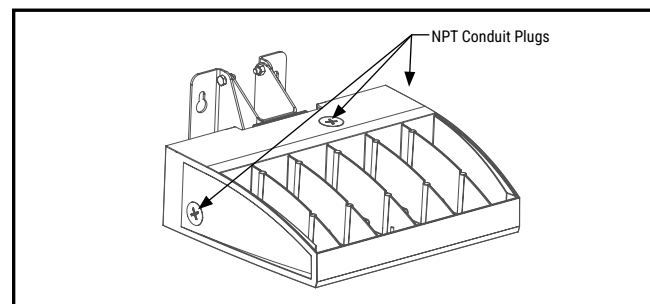

Figure 2.
3. Connect appropriate conduit to the luminaire using 1 of the 3 provide NPT conduit plugs and provide the appropriate feed circuit to the luminaire (see Fig 2).